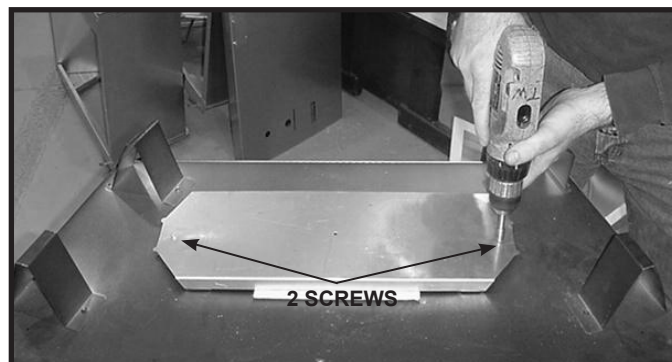

**Figure 6.3**
2. Fasten the shield in place using the four pilot holes. The shield should be oriented such that the 13 1/8 inch dimension (longest dimension) is running in the same direction the elbow is pointing. The shield should be centered directly above the elbow, and positioned so that it creates a 1/2 inch airspace between the shield and the combustable surface. See Figure 6.3.